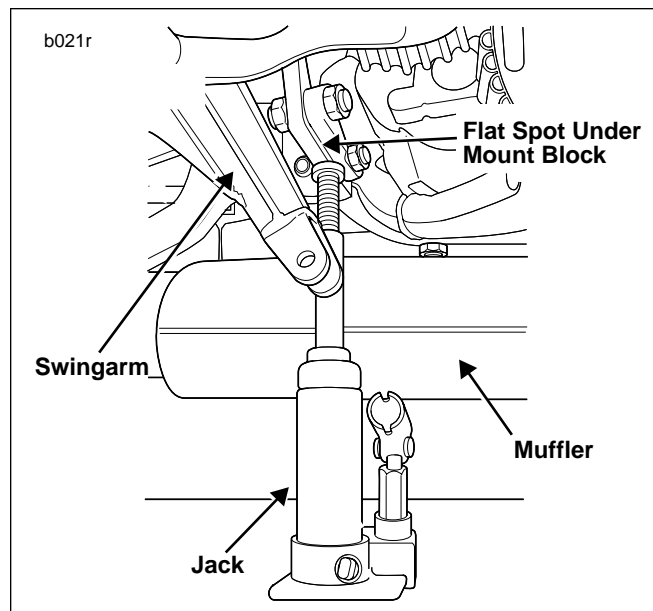

Figure 11. Mount Block Jack Location (Typical)
- See Figure 11. Place a suitable jack under the swing arm mount block and raise until crankcase is supported by jack.